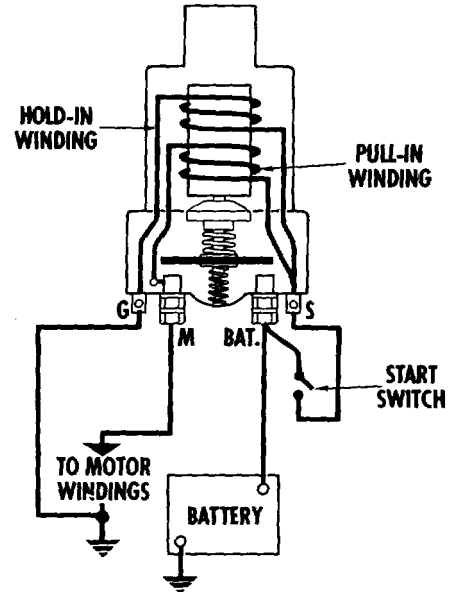
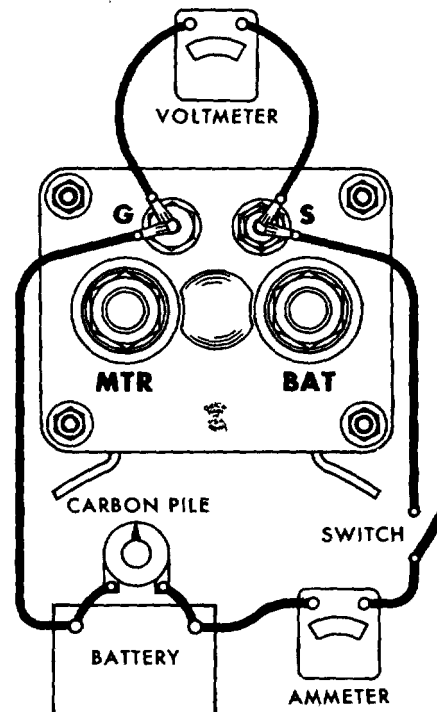

Fig. 4 - Internal Solenoid Circuit. ("G" and "S" Terminals Moved to Clarify Illustration).
Fig. 5 - Checking Solenoid Hold-In Winding.
A basic solenoid circuit is shown in Fig. 4. Solenoids can be checked electrically by connecting a 12 volt battery, a switch, and an ammeter to the two solenoid windings. With all leads disconnected from the solenoid, make test connections as shown to the solenoid switch terminal and to the second switch terminal, (G), to check the hold-in winding (Fig. 5).